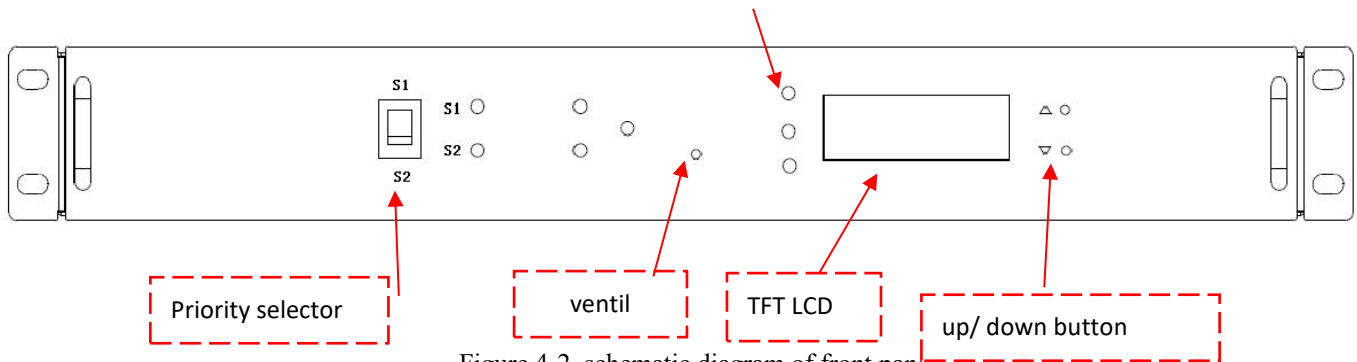

Figure 4-2, schematic diagram of front panel
The front panel is shown in Figure 4-2.
(1) The display panel diagram of the module is shown in Figure 4-2 above.